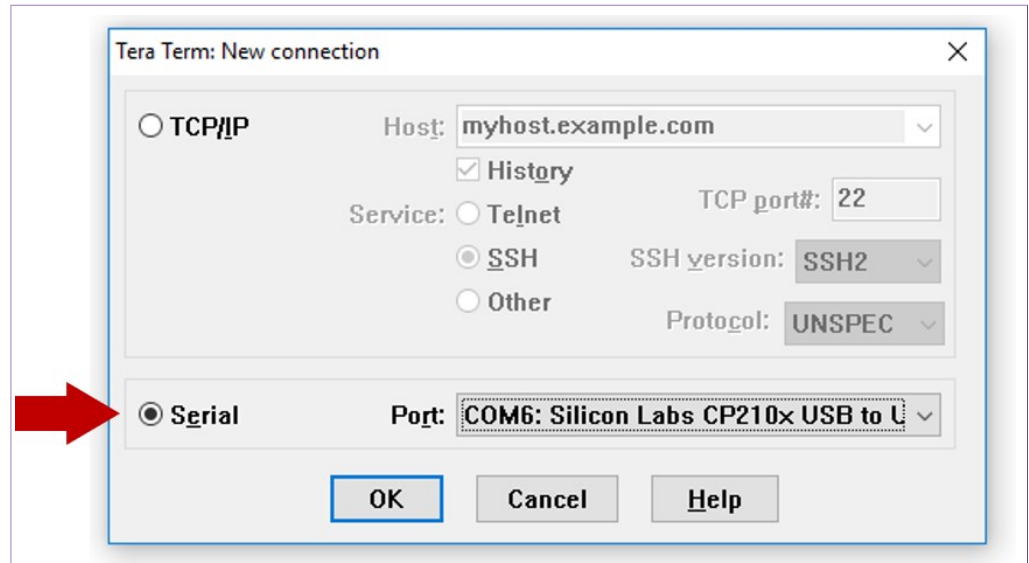

Figure 6. Open a TeraTerm serial connection
2. Launch TeraTerm, click **Serial** option and select from the drop down list the COM port number assigned to your i.MX6UltraLite board as shown in Figure 6. If the serial option is not enabled for you, your i.MX6UltraLite board might not be recognized. In that case, please repeat the driver installation described in Section 3.2.